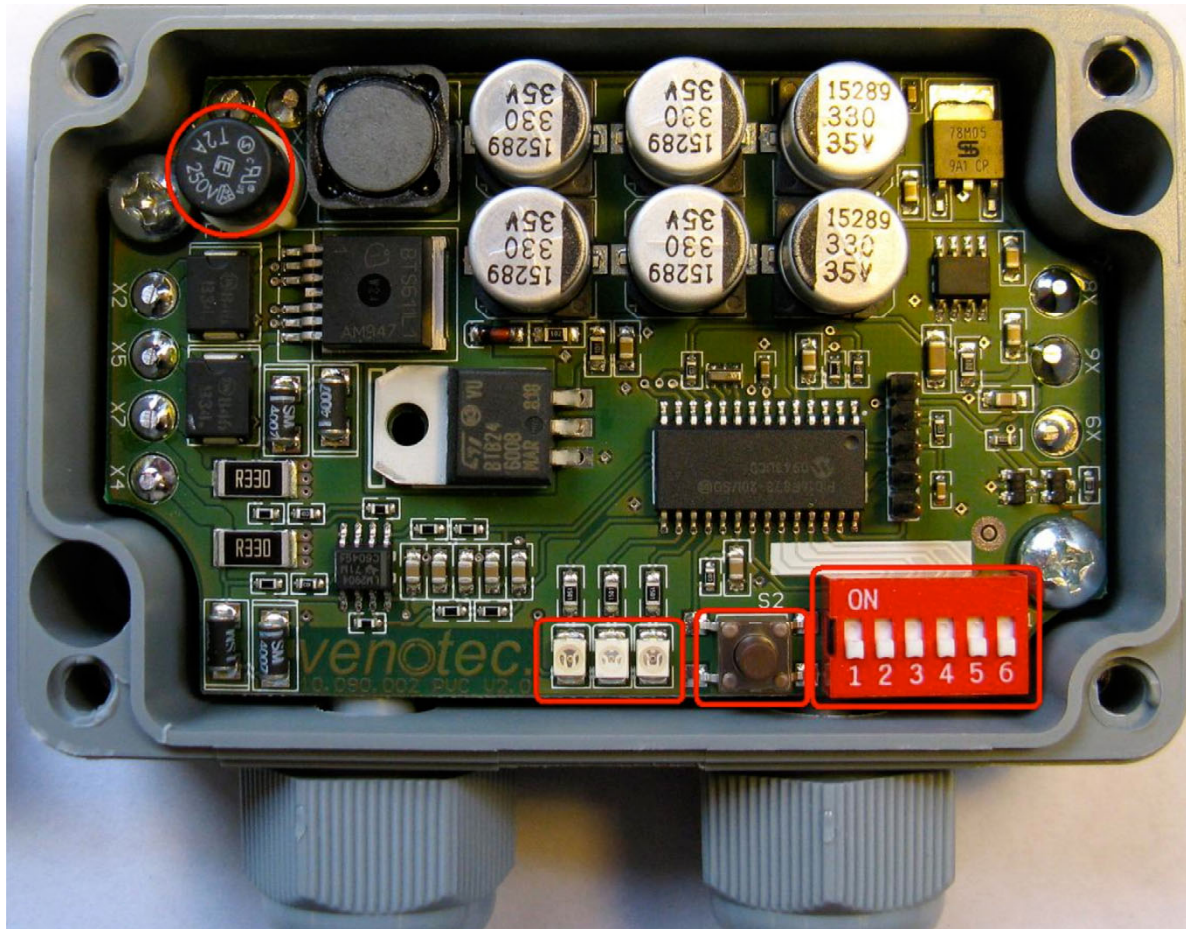

Fig.1: Positions of operational and display elements:
*Comment: All dip switches in fig. 1 are in the "Off" position*